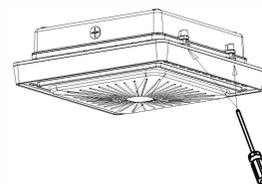

Figure 1-1
1. Disassemble the driver box cover by loosen the two screws on the junction box; Figure 1-1